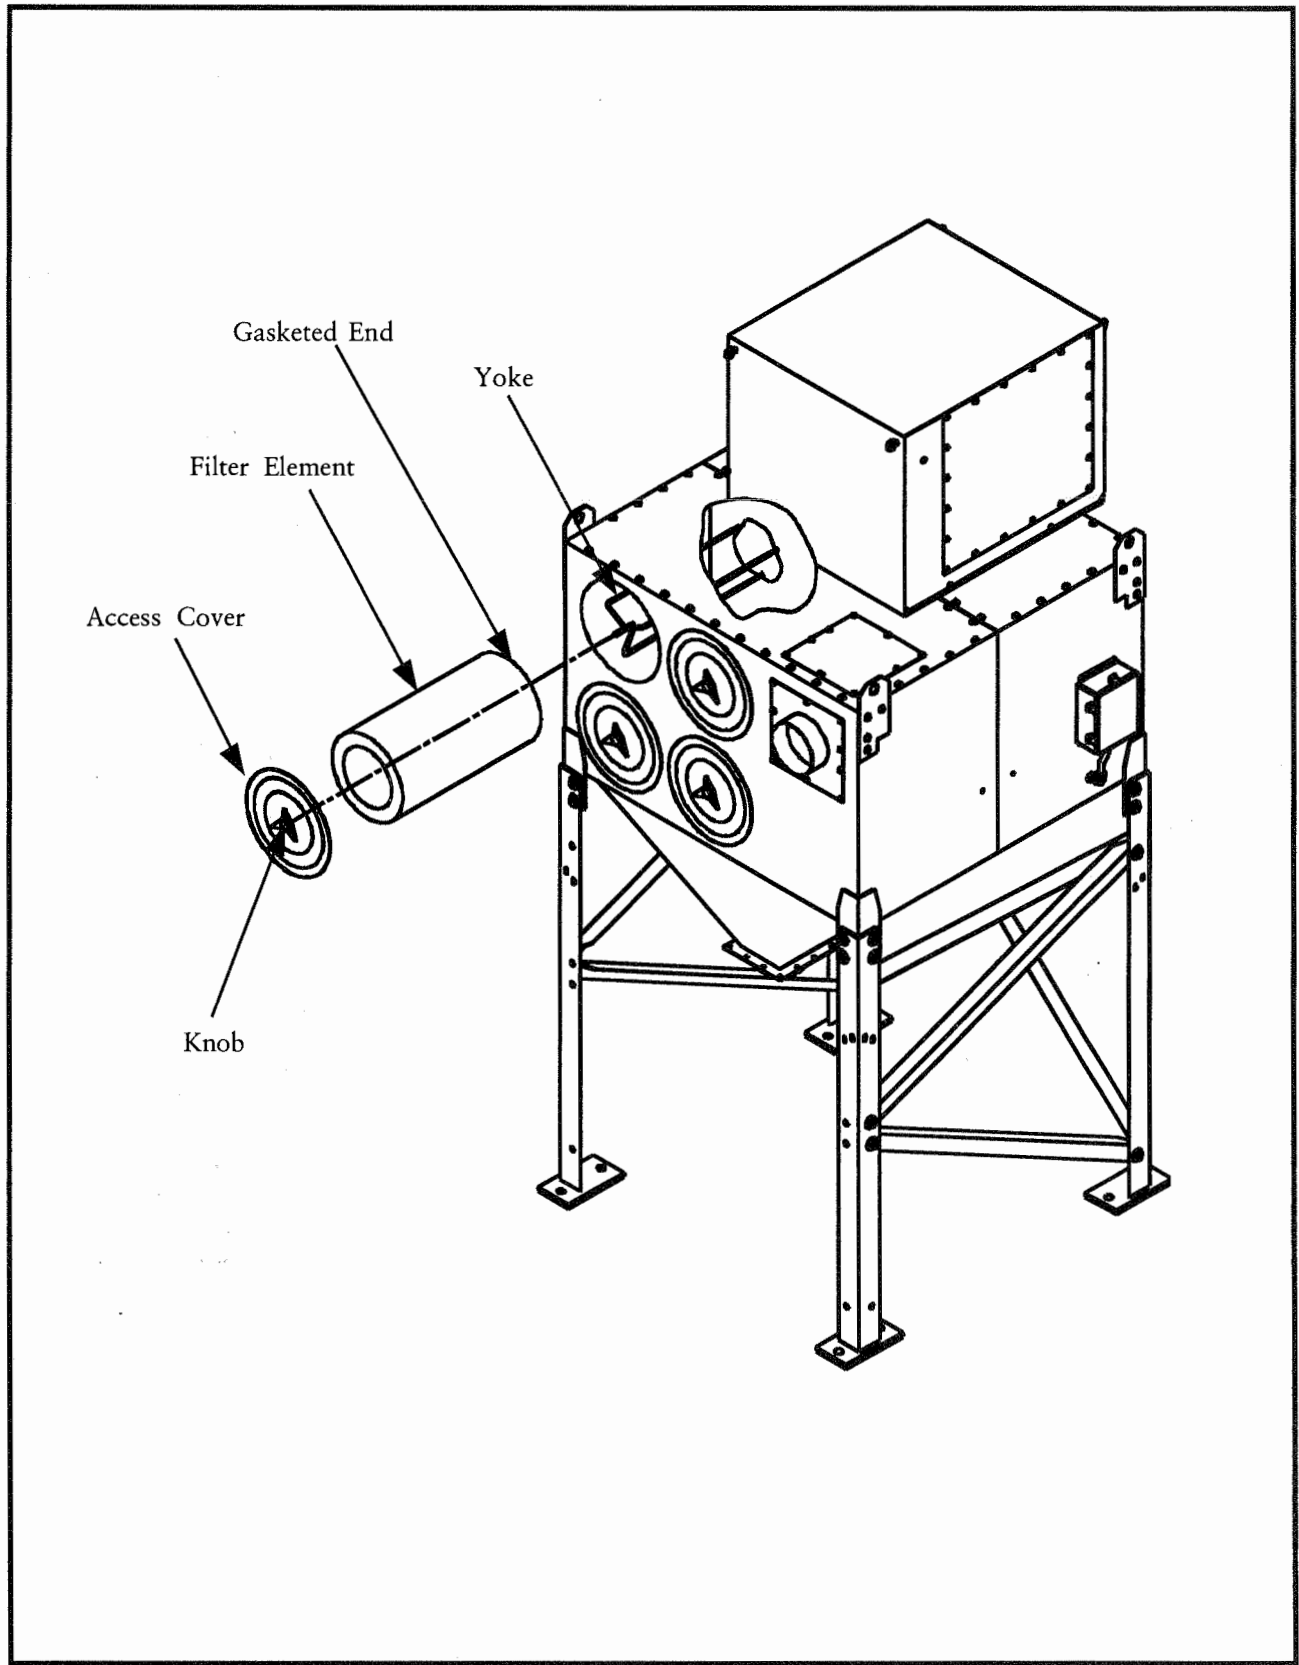

Figure 13
6.1 Filter Element Removal (See Figure 13)
6.2 Filter Element Installation (See Figure 13)